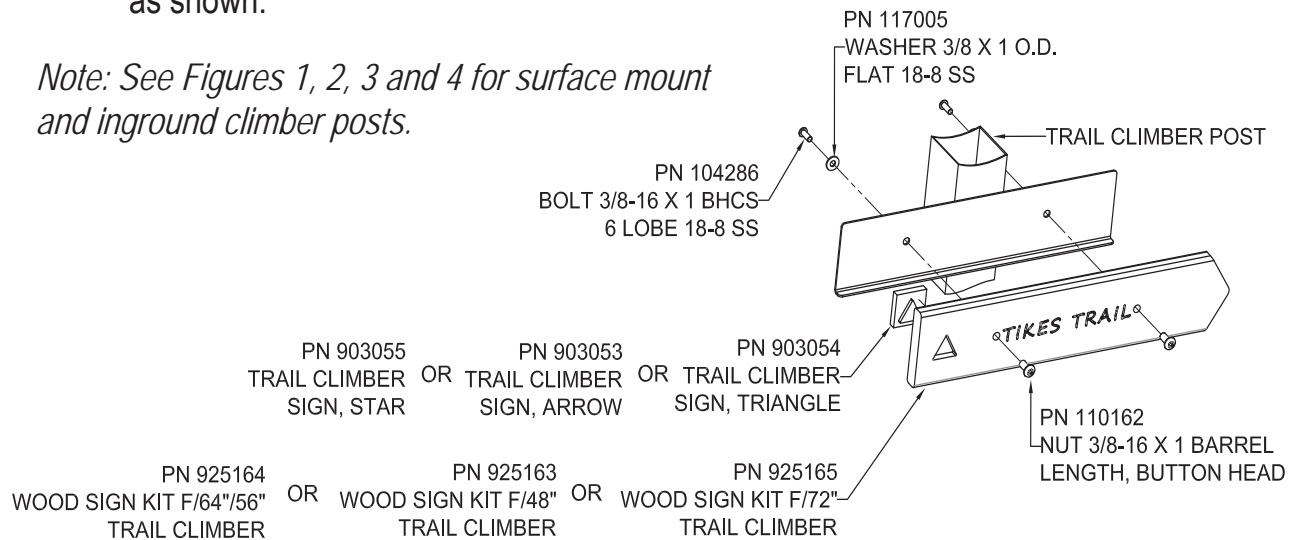
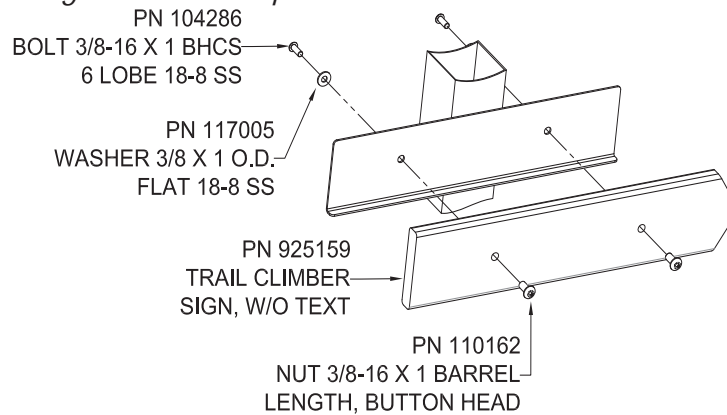

Figure 1. 1830MM [72"]
Figure 9. 1830MM [72"]
*Note: See Figures 1, 2, 3 and 4 for surface mount and inground climber posts.*
*Note: See Figures 9, 10, 11 and 12 for board placement. Refer to Figures 1, 2, 3 and 4 for surface mount and inground climber posts.*